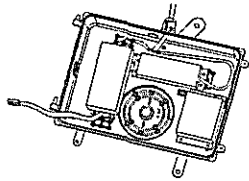

Figure 4
1. After installing the bottom plate, pull the outside wiring into the fixture by the waterproof connector, and tighten the screws on the connector. Make wiring connections per "Electrical Connections" section and make sure the good wire protection. (Figure 4)
4. Make wiring connections per "Electrical Connections" section and make sure the good wire protection.(Figure 4)